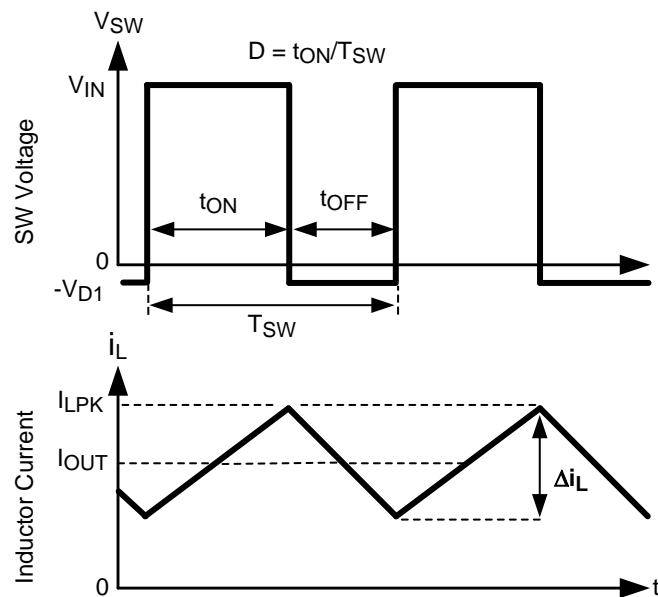

Figure 27. LMR12015/20 Waveforms of SW Pin Voltage and Inductor Current
The following operating description of the LMR12015/20 will refer to the Block Diagram and to the waveforms in Figure 27. The LMR12015/20 supplies a regulated output voltage by switching the internal NMOS switch at a constant frequency and varying the duty cycle. A switching cycle begins at the falling edge of the reset pulse generated by the internal oscillator. When this pulse goes low, the output control logic turns on the internal NMOS switch. During this on-time, the SW pin voltage ( $V_{SW}$ ) swings up to approximately  $V_{IN}$ , and the inductor current ( $i_L$ ) increases with a linear slope. The current-sense amplifier measures  $i_L$ , which generates an output proportional to the switch current typically called the sense signal. The sense signal is summed with the regulator's corrective ramp and compared to the error amplifier's output, which is proportional to the difference between the feedback voltage ( $V_{FB}$ ) and  $V_{REF}$ . When the output of the PWM comparator goes high, the switch turns off until the next switching cycle begins. During the switch off-time ( $t_{OFF}$ ), inductor current discharges through the catch diode D1, which forces the SW pin ( $V_{SW}$ ) to swing below ground by the forward voltage ( $V_{D1}$ ) of the catch diode. The regulator loop adjusts the duty cycle (D) to maintain a constant output voltage.
During a normal switching cycle, when the internal NMOS control switch is off ( $t_{OFF}$ ) (refer to Figure 27),  $V_{BOOST}$  equals  $V_{LDO}$  minus the forward voltage of the internal diode ( $V_{D2}$ ). At the same time the inductor current ( $i_L$ ) forward biases the catch diode D1 forcing the SW pin to swing below ground by the forward voltage drop of the catch diode ( $V_{D1}$ ). Therefore, the voltage stored across  $C_{BOOST}$  is
Inductor selection is critical to the performance of the LMR12015/20. The selection of the inductor affects stability, transient response and efficiency. A key factor in inductor selection is determining the ripple current ( $\Delta i_L$ ) (see Figure 27).